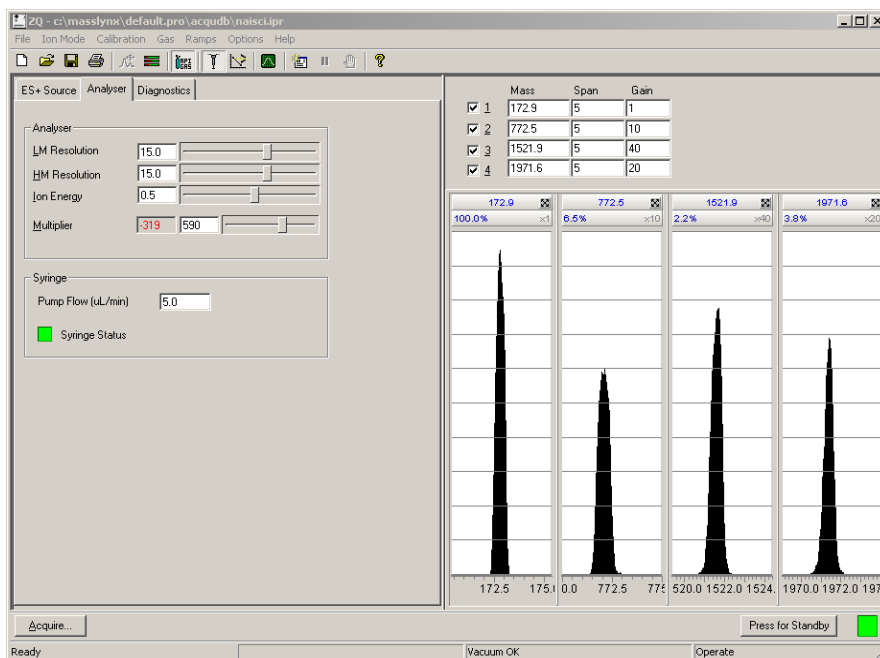

Figure 4-4 Tune Window Displaying Analyser Page Parameters
- Click the **Analyser** tab to open the Analyser page (Figure 4-4), and enter these suggested parameters in the corresponding fields.